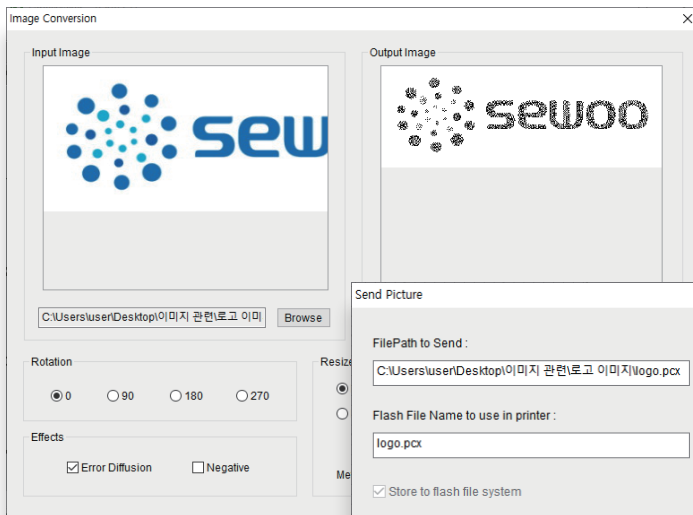

Figure 1
- 01 Change the image to PCX in the Image Conversion menu to change to the printable image extension. (Figure 1)